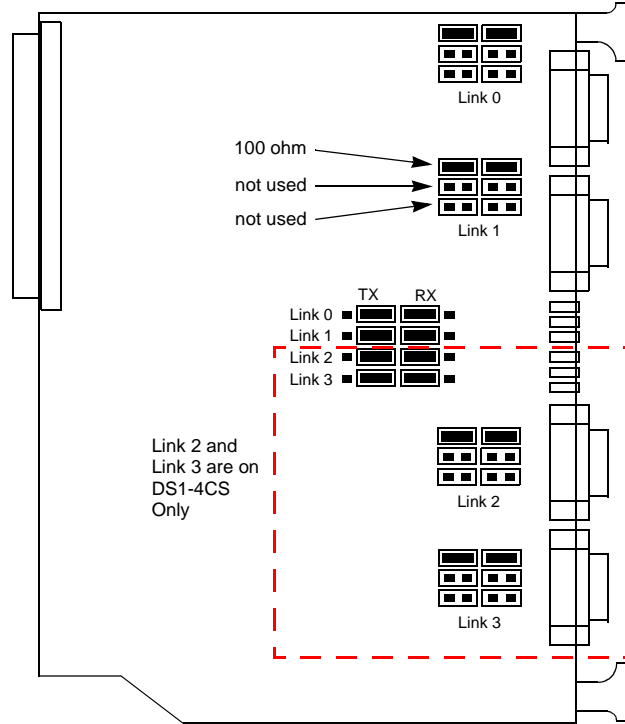

Figure 5-8 DS1-2CS and DS1-4CS LIM Jumper Positions
On the DS1 LIMs, you must ensure TX and RX jumpers are positioned properly in order to connect TX and RX shields to chassis ground. These jumpers are located towards the center of the LIM, as shown in Figure 5-8. There are four rows of six pins, one row for each Link. The left-most set pins are the TX setting for each Link; the right-most set of pins are the RX setting for each Link.
- With the jumpers set as shown in Figure 5-8, the TX and RX shields for each Link (DB15 pins 12 and 10, respectively) are connected to chassis ground.